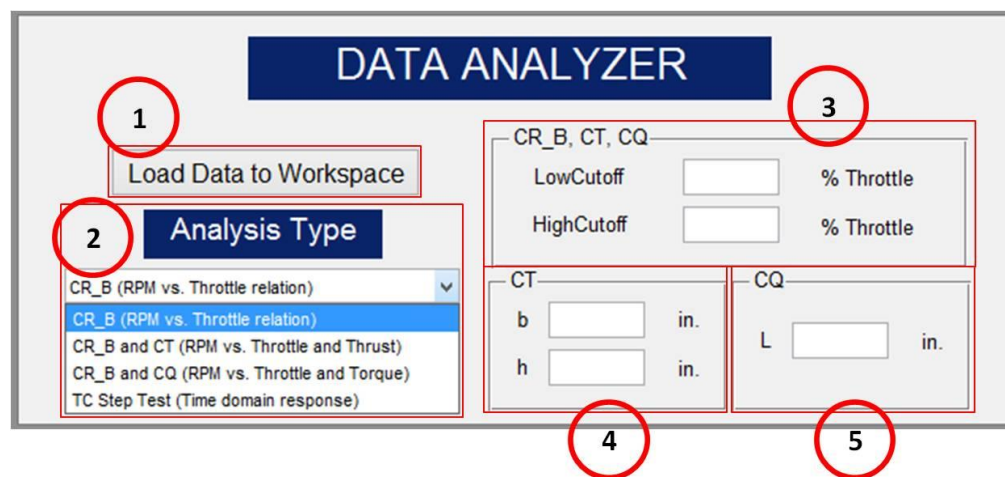

Figure 1. Data Analysis Program
The simulation requires us to estimate several quadcopter performance parameters that are acquired through experimental testing of the motors of the quadcopter vehicle. This GUI was made to help analyze this motor test data. The parameters this GUI is able to calculate are called: CR and b (Throttle to RPM conversion),  $C_T$  (Thrust coefficient),  $C_Q$  (Torque coefficient), and TC (motor time constant). By loading test data into the workspace the GUI can automatically calculate parameters and plot the data. The Data Analysis GUI can be seen below in Figure 1.
- ii. The **LowCutoff** and **HighCutoff** for throttle percentage can also be included in this program. These values are entered as shown on figure 1 above. For example, if a test is run between throttle limits of 0 and 60%, you may still only want the program to analyze the data between values of 20 and 40% throttle. This is an important concept since having the fit be accurate around the anticipated normal operating range is often more important than having the fit be based on the full possible range of RPM values. Therefore, we recommend some iteration involving finding the approximate throttle required for hover and then performing additional testing and parameter fits around this range (+/- 5-10% throttle for example). This will produce more accurate simulation results, and presumably better control design, at near hover conditions, which are usually the conditions of primary interest. If these values aren't entered, the program will automatically find the lowest (non-zero) and highest throttle values from the test data and use those instead.